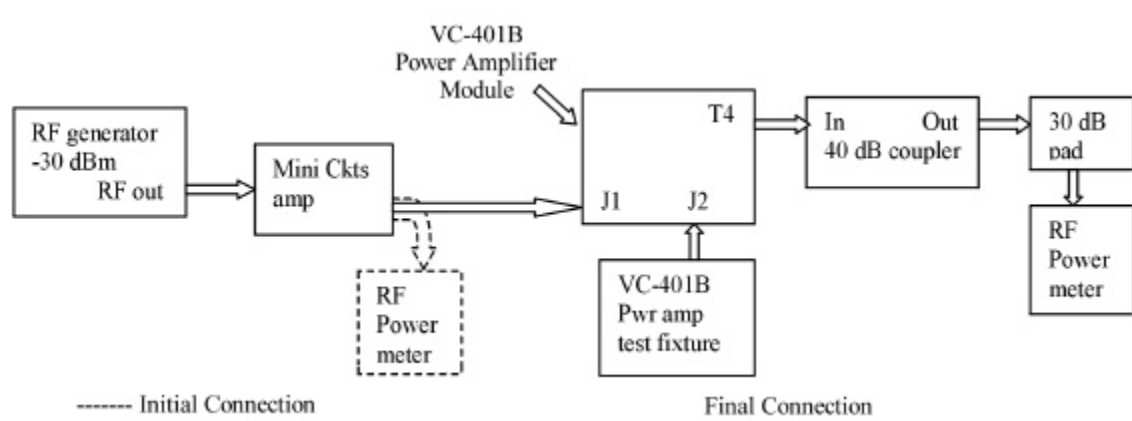

Figure 3-8 Connections for CW Pre-Filter Peak Power Measurements
Figure 3-8 shows the initial and final connections for this test.
1. With the pigtail-BNC still connected to the output of T4, temporarily connect the RF generator output, set for -30 dBm, to the mini circuits amp input. The mini circuits amp output should be connected directly to the RF power meter, bypassing the 30 dB attenuator (initial connection in Figure 3-8).
3. Reconnect the RF power meter to the 30 dB attenuator pad output and connect the output of the mini cks amp to J1 (final connection in Figure 3-8).